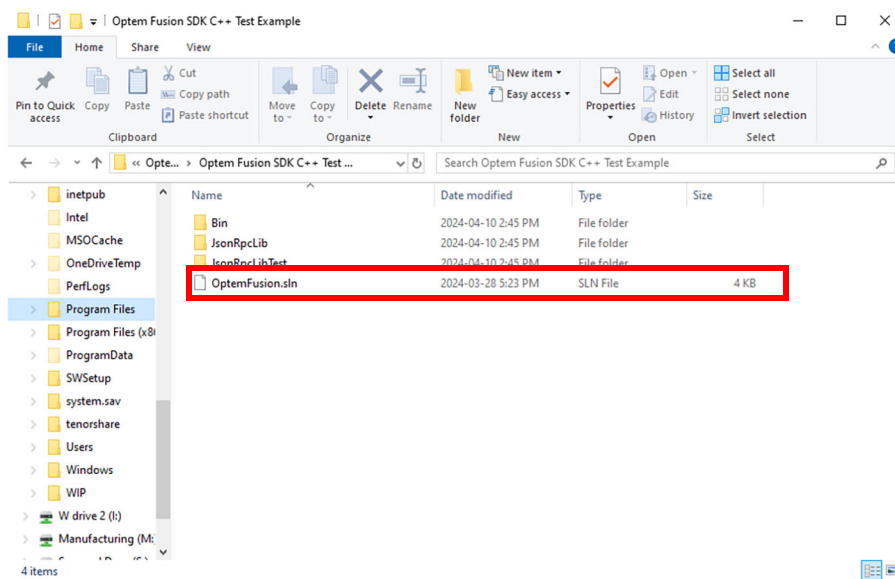

Figure 54 C++ Test Example Folder Contents
3. Double click OptemFusion.sln (outlined in red in Figure 54), to open the solution file.